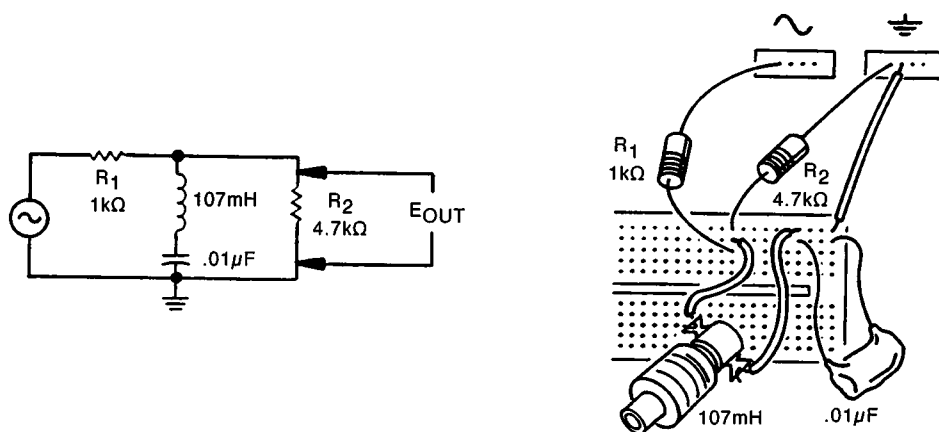
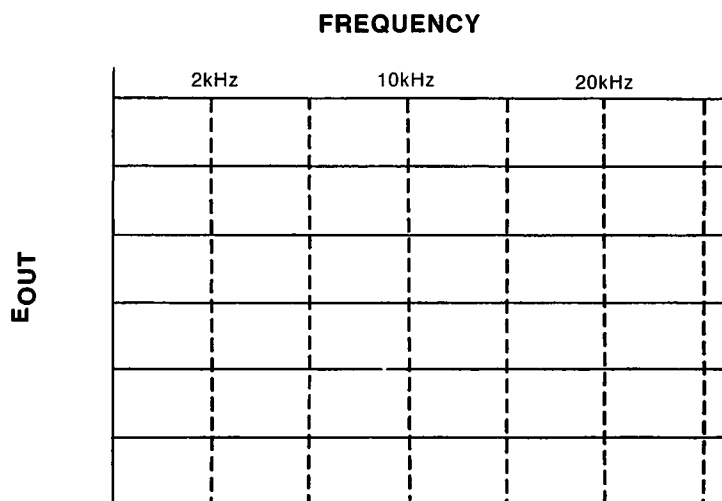
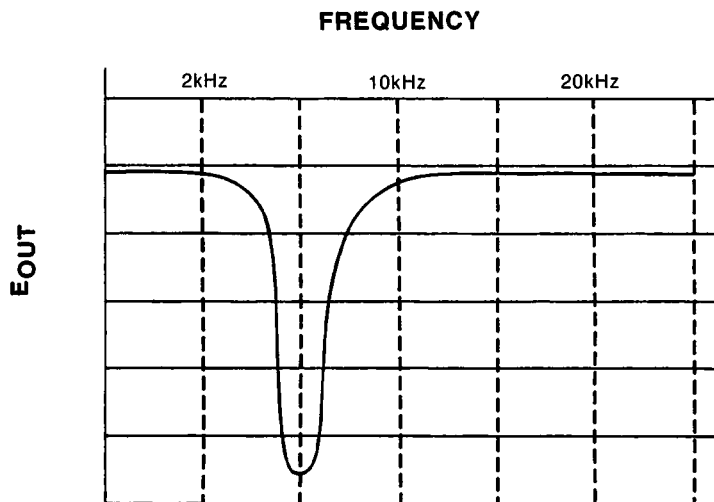

Figure 5-42
Figure 5-43
Figure 5-51
13. Disconnect the previous circuit and construct the circuit shown in Figure 5-42.
14. Connect the voltmeter across R_2 (not R_1). Use the above procedure to plot the response curve for this circuit on the graph in Figure 5-43.
Plot the response curve of the circuit shown in Figure 5-42.
Next, you constructed the circuit shown in Figure 5-42 and plotted its response curve. The curve you plotted in Figure 5-43 should agree with the typical curve shown in Figure 5-51. This is the response curve of a band-stop filter.
shown in Figure 5-42.